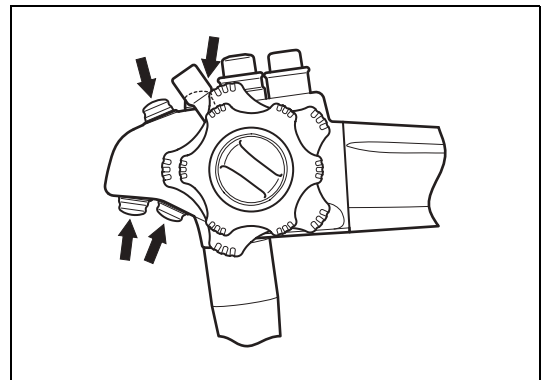

Figure 4.2
- 1 **Press each button on the control body of the endoscope and check that a confirmation tone sounds. (Refer to Figure 4.2.)**